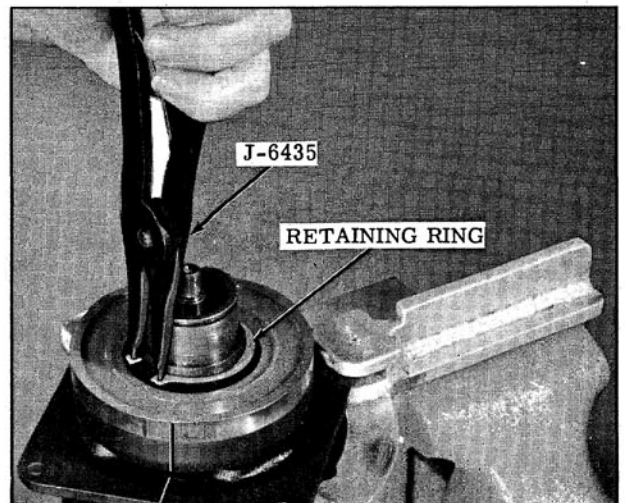

Fig. 14-85 Removing Coil Housing Retaining Ring
2. Remove the clutch coil housing retaining ring with Tool J-6435. (Fig. 14-85)